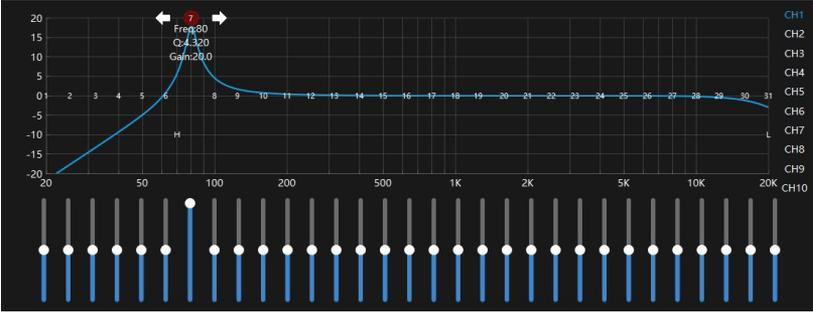

FIGURE 3.3.8
1. In the output channel EQ editing mode, all 31 equalizer bands will function as a parametric equalizer. When adjusting the parametric EQ curve, the corresponding parameter values frequency, Q factor, and gain can be modified in real time using the input fields below. These adjustments will also be visually reflected at the top of the interface (as shown in Figure 3.3.8: Parametric Equalizer Example)."